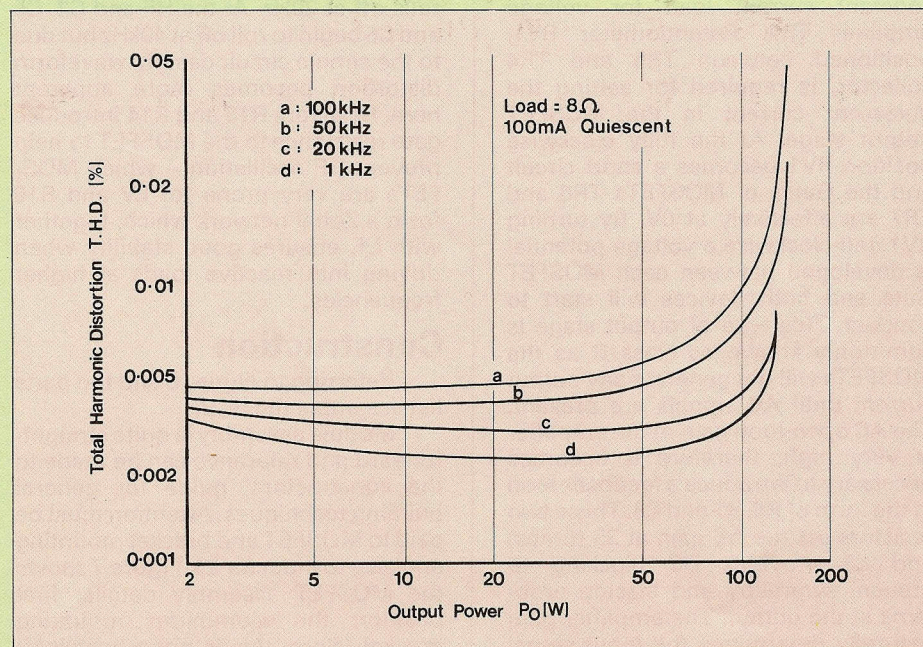

Figure 4. Typical T.H.D. Vs output characteristics.
T.H.D. levels increase as can be seen in Figure 4, although these figures remain fairly insignificant in practical terms.